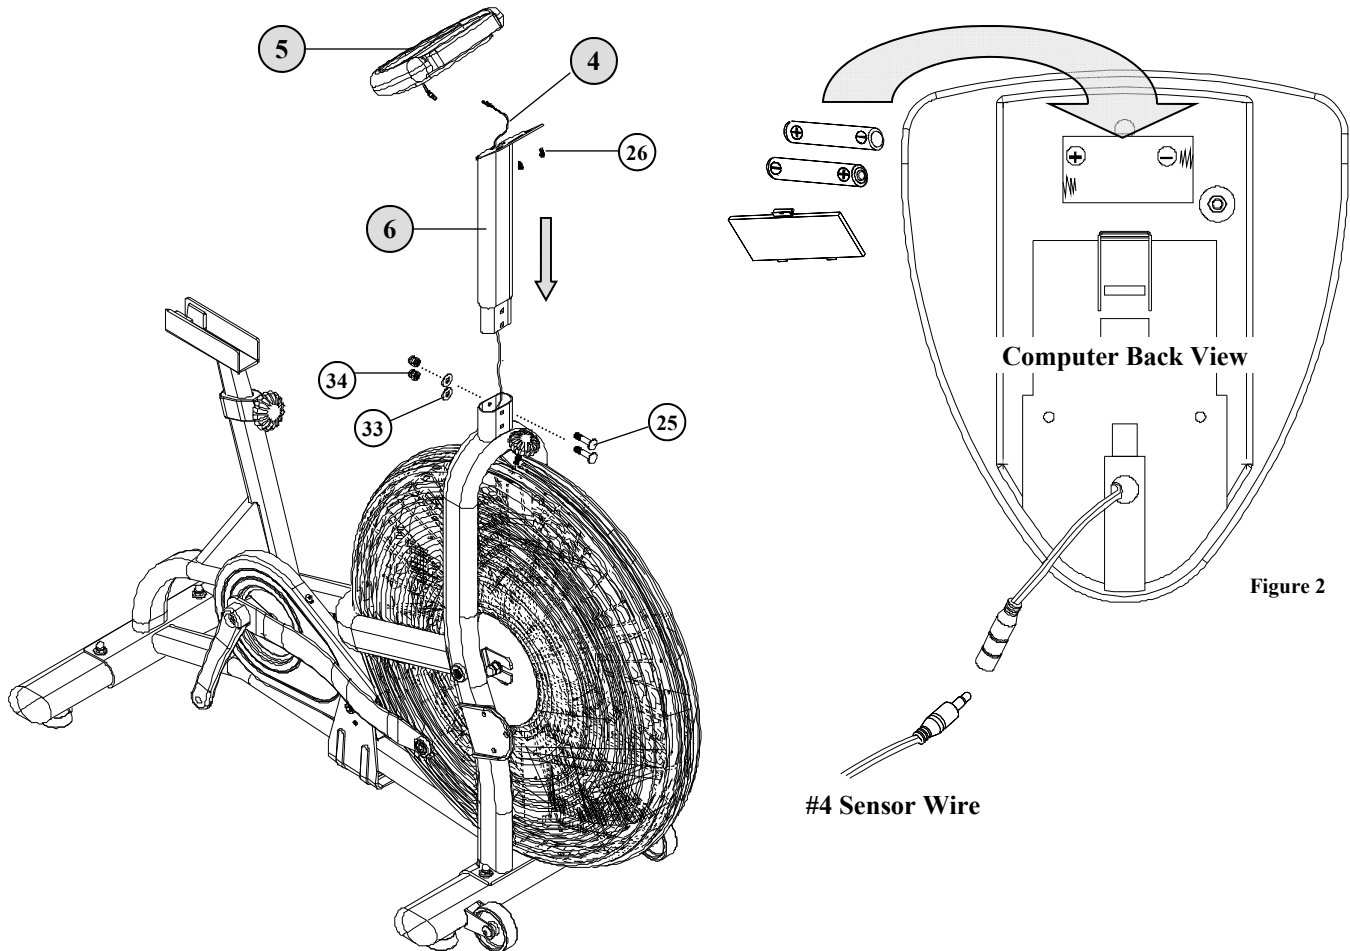

Figure 2
- B) Install **(2) AA Batteries** into the back of the **Computer (#5)**, as shown in **Figure 2**. Connect the **Sensor Cable (#4)** to the receptacle end of the cable coming from the back of the computer. Tuck the excess cable length into the mast and slide the computer onto the mast mounting plate. Secure the computer in place using **2-Pan Head Screws (#26)**.